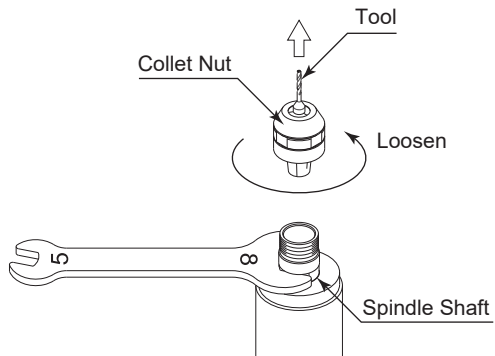

Fig. 9
- ① Remove the tool according to the section 8. "CHANGING THE TOOL" procedure above and remove collet nut assembly (Fig. 9).